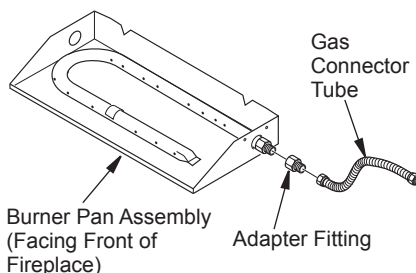

Figure 4 - Connecting Gas to Appliance
3. Install adapter fitting onto the burner inlet fitting using thread sealant on male threads of burner inlet fitting (see Figure 4).